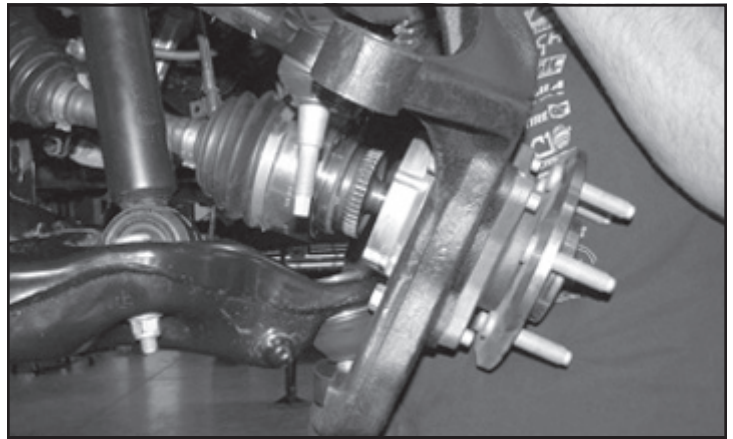

FIGURE 42 - STEP 47
47. Install the Fabtech knuckle onto the upper and lower control arms. Torque the upper ball joint to 85 ft-lbs and the lower ball joint to 110 ft-lbs. **SEE FIGURE 42**